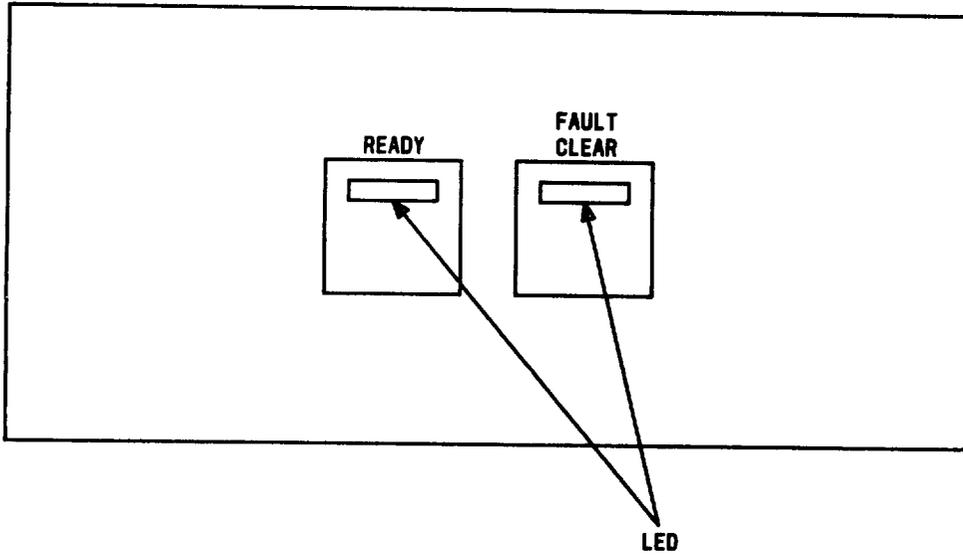

Fig. 2—KS-22693, L1, Operator/Status Control Panel
2.03 Figure 2 shows the operator/status control panel while Table A lists the controls together with their functions.
**2.15** The front panel houses the three cooling fans and primary air filter for the disk drive. The front panel also has an operator/status control panel. The operator/status control panel contains one indicator and one switch/indicator, which allow the operator to control and monitor the basic operation of the disk drive. See Fig. 2 and Table A.